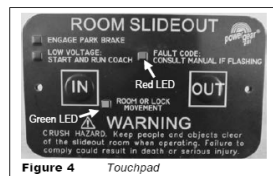

Figure 4 Touchpad
6. Press and hold the **OUT** button (Fig 4). To retract, press and hold the **IN** button. There will be a slight delay before the room begins moving.
The **RED FAULT CODE LED** (Fig 4) will flash a number of times corresponding to a specific fault code (refer to the Fault Code Chart).
The **GREEN ROOM MOVEMENT LED** (Fig 4) will flash **GREEN** a number of times corresponding to which motor has the associated fault.
- **MINOR** faults can be cleared by pushing and releasing the **IN** or **OUT** buttons on the wall touchpad (Fig 4).
1. Remove the touchpad (Fig 4) from the wall.